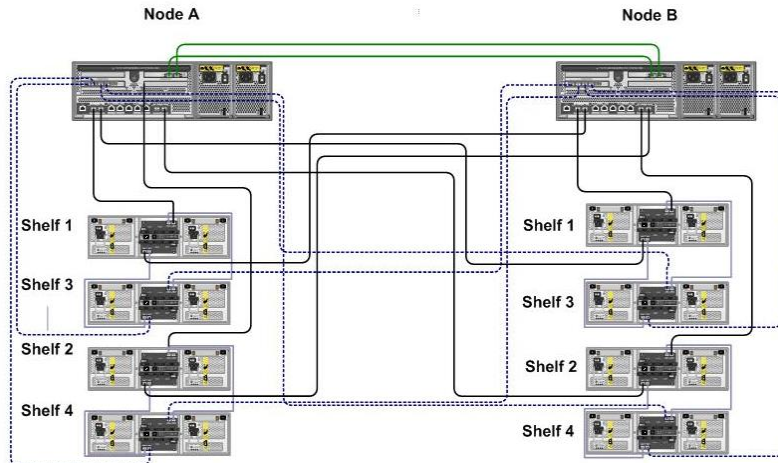

Figure 6) Stretch MetroCluster configuration.
If this configuration were to be converted to a stretch MetroCluster configuration, then four (4) additional shelves would be necessary, two for each controller. Figure 6 below shows the converted stretch MetroCluster configuration. Notice each controller now has two additional shelves on the opposite side. These contain the mirrored aggregates of their partner.